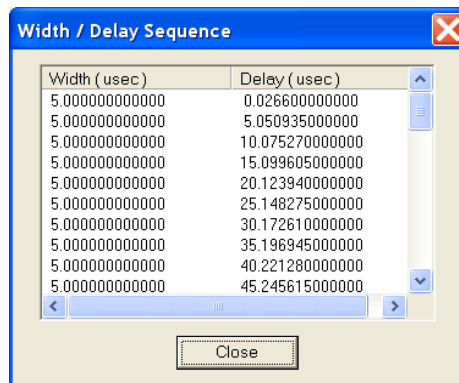

Figure 148. Gate Width/Delay Sequence dialog
**View Width/Delay Sequence:** Opens the **Width/Delay Sequence** dialog (Figure 148) which lists the currently programmed sequence of gate width and gate delay values.